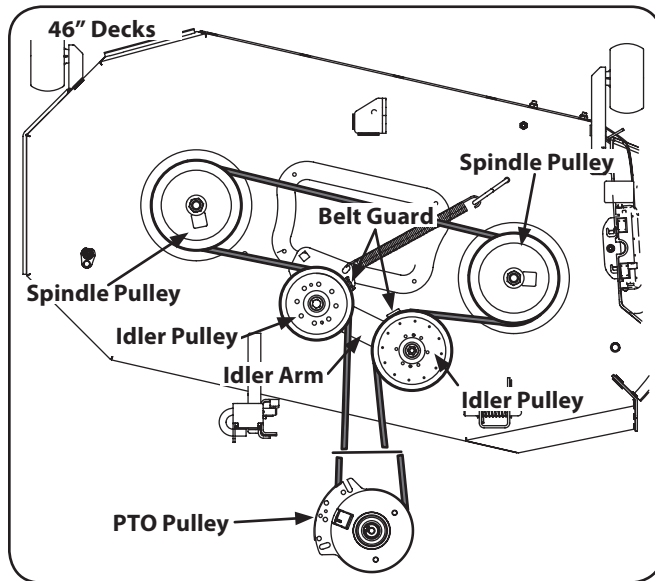
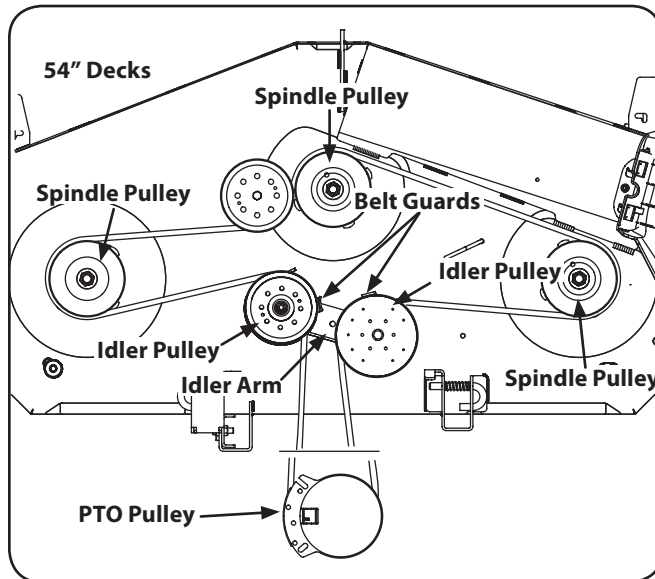

Figure 7-8
Figure 7-9
2. Loosen, but do not remove the hardware on the right and left idler pulley. Refer to Figure 7-8 for 46" decks and Figure 7-9 for 54" decks.